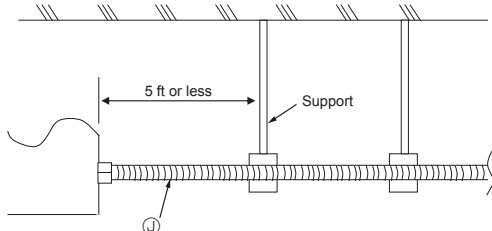

Fig. 9-8
- To avoid excessive strain on the branch box, support the conduit pipe  with one or more support(s) 5 ft or less from the branch box. Refer to Fig. 9-8 as an example.